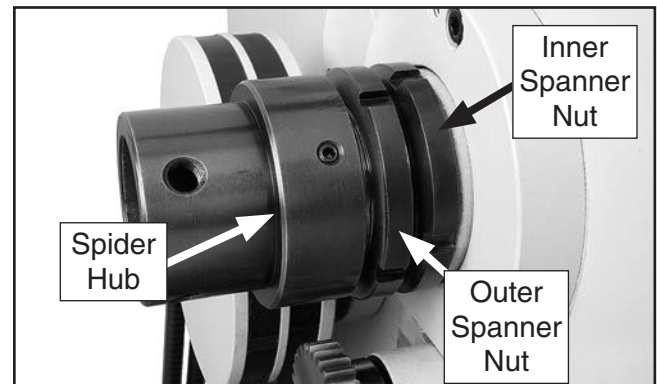

Figure 142. Spindle spanner nuts.
4. Place chuck wrench in camlock socket to keep spindle from rotating, and loosen outer spanner nut (see **Figure 142**) two turns. Removing spider hub is not necessary.